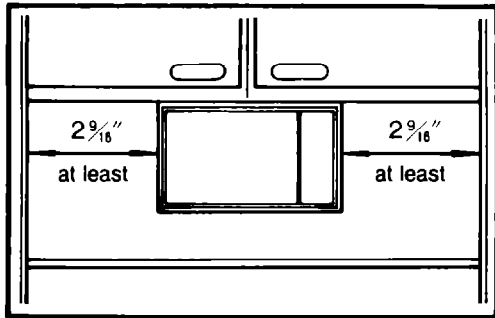

Fig.3
- For mounting and dismounting ease, allow adequate space between the unit and an adjacent wall or appliance. Installation will be easier if adequate space is allowed for hand clearance (Fig.3)